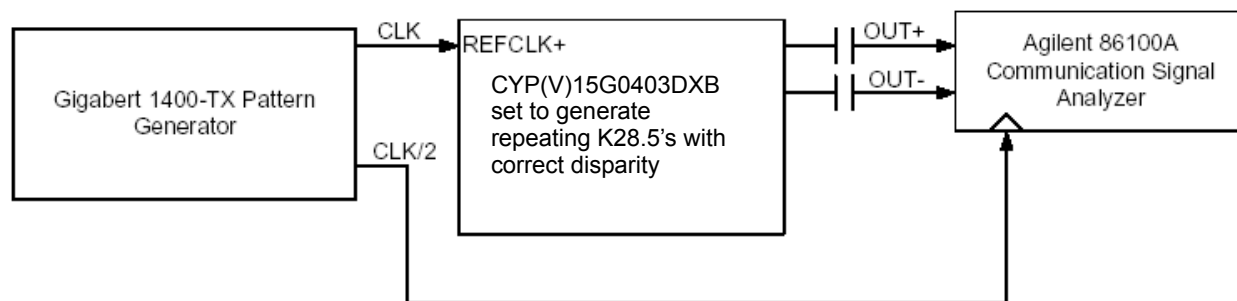

Figure 7. Set-up to Measure Deterministic Jitter
The set up to measure deterministic jitter is shown in *Figure 7*. The CYP(V)15G0403DXB device is set up to transmit K28.5 characters with the correct disparity. This will produce a repeating pattern composed of a K28.5+ followed by a K28.5- (00111110101100000101). This pattern has the highest run length of zeros ("00000") and ones ("11111") possible in an 8B/10B encoded stream. It also has an isolated 1 ("010"), isolated 0 (101), isolated pair of ones ("0110") and isolated pair of zeroes ("1001") in the data stream. The output data stream is observed in a Communication Signal Analyzer like an Agilent 86100A. Tabulate the expected zero crossing times of each pattern edge in the data stream for the given data rate. Then, tabulate the discrepancy between the actual zero crossing times and the expected zero crossing times. The actual zero crossing times should be obtained after averaging at least a thousand samples. The difference between the maximum and minimum deviation time is the DJ.